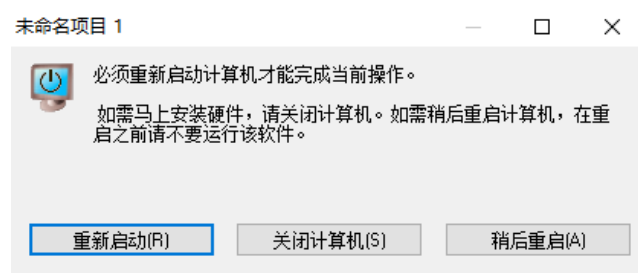

Figure 5.9 Set-up wizard
3.2.7 Restart PC to complete installation as shown in Figure 5.9.